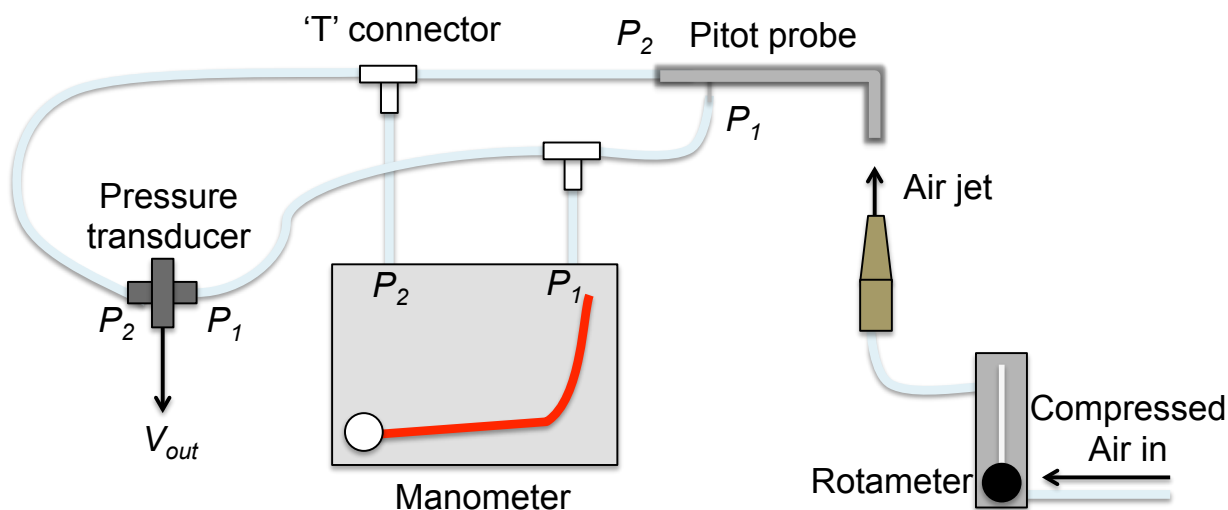

Figure 3 – A schematic of the experimental setup for calibrating the capacitive pressure transducer and measuring airspeed with the Pitot probe.
Shown in Figure 3 is a schematic of the overall experimental set-up. As you calibrate the pressure transducer, you will simultaneously measure the airspeed of a jet as a function of flow rate. Theoretically, the average velocity $\langle u \rangle$ is related to the flow rate Q by the equation
6. The tubes from the transducer should be connected to a couple of 'T's, which split the gas flow between the Pitot probe and manometer. Connect the other tubes from the 'T' to the manometer and Pitot probe, as shown in Fig. 3.
14. Use Bernoulli's Eq. to calculate the velocity of the air jet based on the measured pressure differential. Make a plot of the velocity in m/s as a function of the flow rate in m^3/s . Compare this to the average velocity given by Eq. (3). (Double check that your units are correct!)